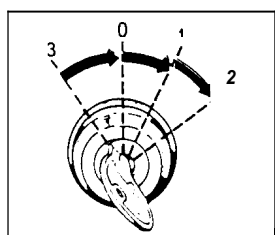

Fig. 22. Starter switch key.
- Insert the starting key and turn it to position 1 in fig. 22.
- Push the starter switch key and turn clockwise to position 2 in fig. 22. Hold the key there until the engine starts. The key when released will return to the switched on position (position 1 in fig. 22).
NOTE: The starter switch is also the main switch for the electrical system of the engine. Because the engine is equipped with an alternator the starter switch key must not be turned to off (position 0 in fig. 22) when the motor is running as the alternator rectifier diodes could be damaged. For the same reason the battery cables should never be disconnected or reconnected to another battery while the engine is running.